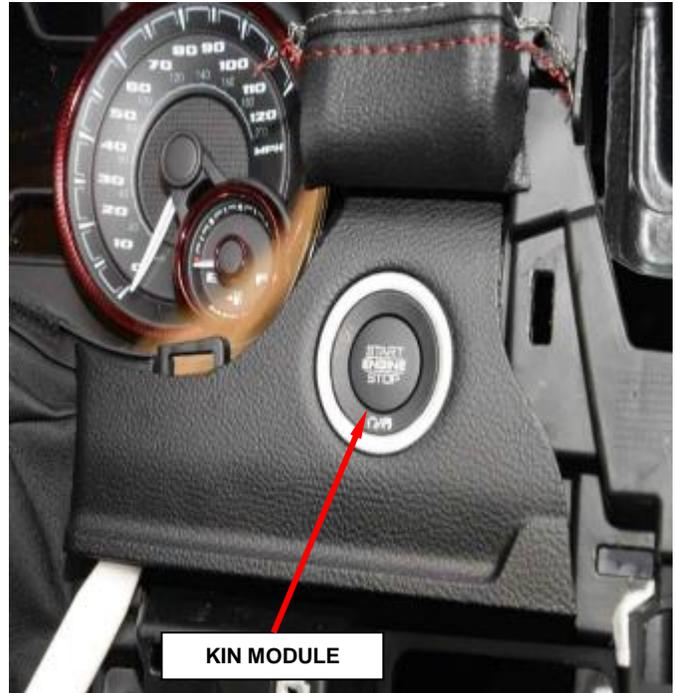

Figure 14 – KIN Module
15. Remove the KIN module (Figure 14).